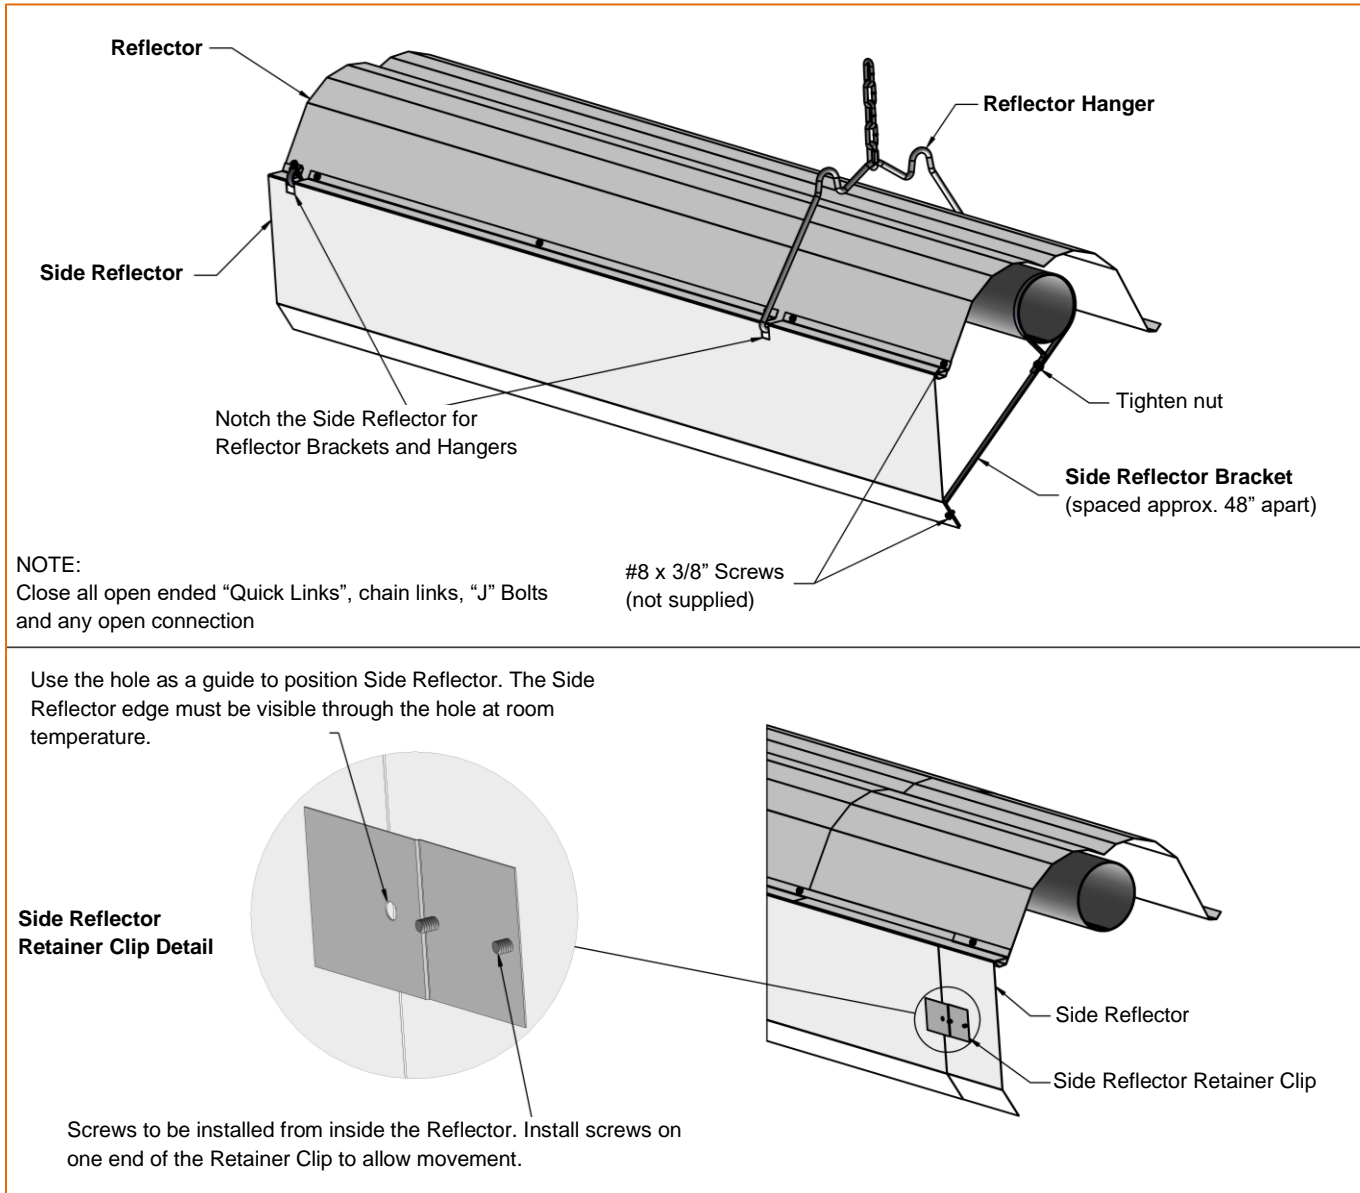
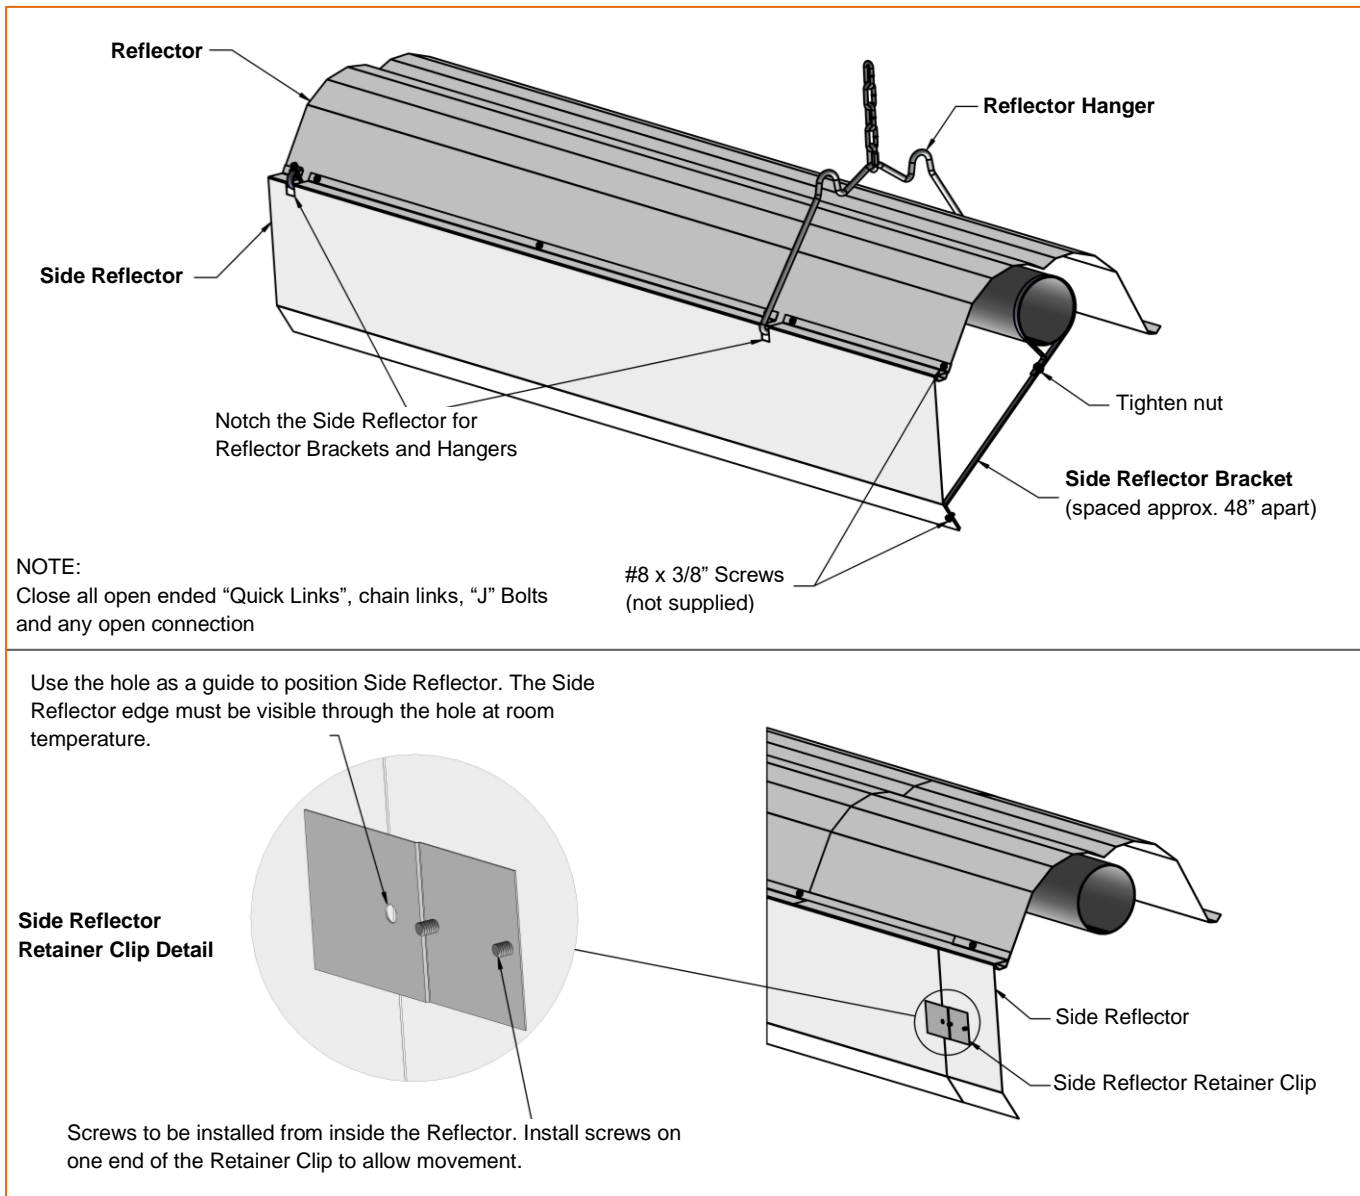

Figure 20: Side Shield Overlap
Figure 21: Bottom Shield Installation
- If used, install side shields (reflectors) and/or bottom shield as required. Refer to Figure 20 and Figure 21 for details.
- Side shields are 124" (315cm) long. Fasten one side shield per reflector with #8 x 3/8" screws. Use three side shield brackets per side shield. Space about 48" (122cm) apart, refer to Figure 20.
- Bottom shields need not overlap. Each 5' section is held with two support brackets (see Figure 21).